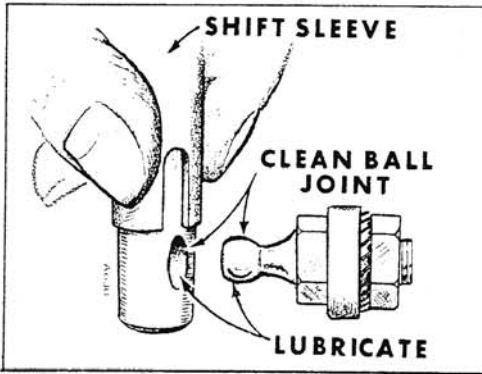

Fig. 10 Governor Linkage Lubrication
GOVERNOR LINKAGE. - Lubricate the linkage ball joints, figure 10, with powdered graphite (preferably), or a light, non-gumming lubricating oil.
- D. - **GOVERNOR LINKAGE.** Use lubricating graphite on the ball joints, figure 10. If graphite is not available, use a light non-gumming lubricating oil.